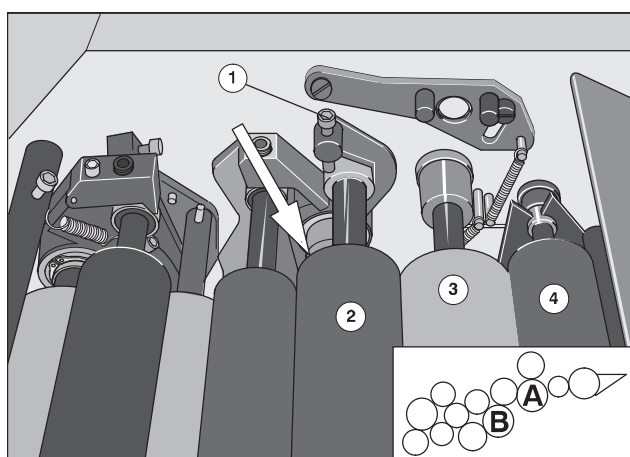

Fig. 62 1st ink transfer roller
- Set the ink stripe between the 1st ink transfer roller (Fig. 62/2) and the ink distributors (Fig. 62, A and B) to 4 mm using the black adjusting screw (Fig. 62/1).
Ink stripe width to the ink fountain roller and to the ink distributor (Fig. 62/3): 3 mm in each case. The ink stripe width is not adjustable. If the ink stripe width significantly deviates from this value, then replace the ink vibrator.